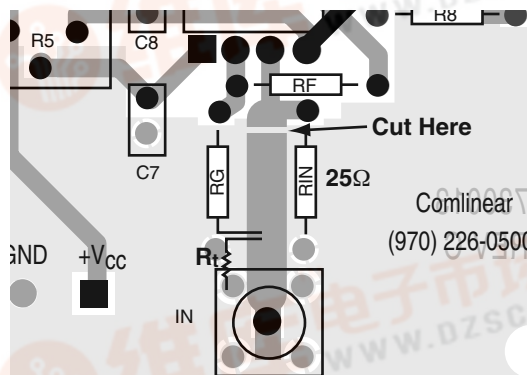

Figure 3: Modifications for Inverting Gains (CLC730013 board shown)
1. Cut the input trace as shown in Figure 3
3. Terminate R_g at the input trace instead of ground (See Figure 3)